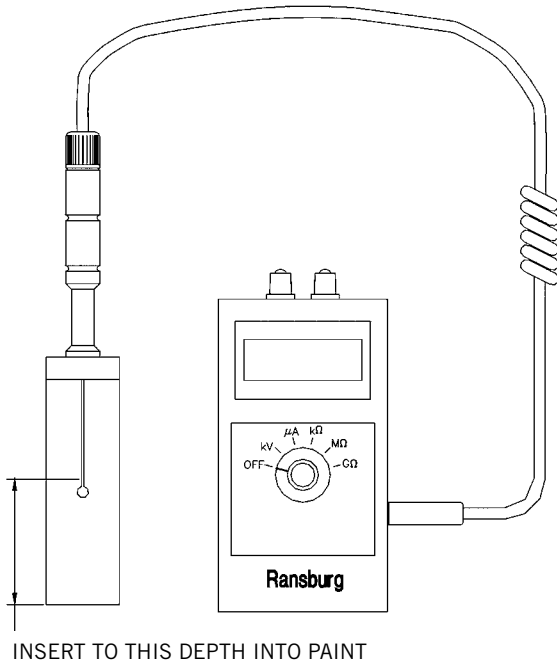

Figure 6: Paint Tester Operation
1. Set the meter dial to the $M\Omega$ scale (see Figure 6). Plug the paint probe into the side of the meter.
2. Immerse the probe vertically into a well-mixed representative sample of the subject paint until the holes at the bottom of the slots in the probe sleeve are submerged (see Figure 6). Take a reading within 5 to 10 seconds of submerging the probe.